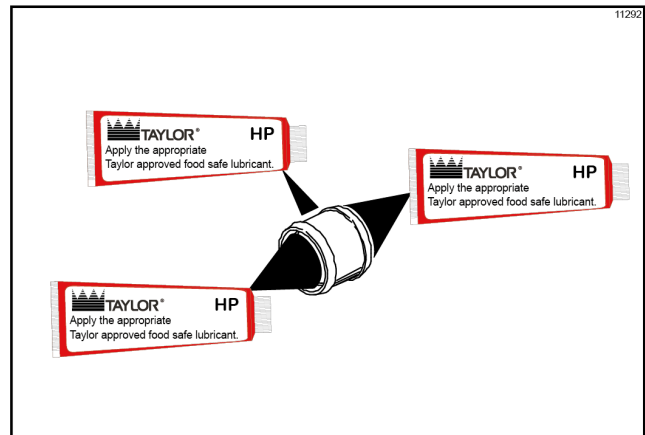

Figure-116
- Lubricate the outer diameter of the spinner shaft seal. Fill the cups on each end of the seal with lubricant. (See Figure-116.)